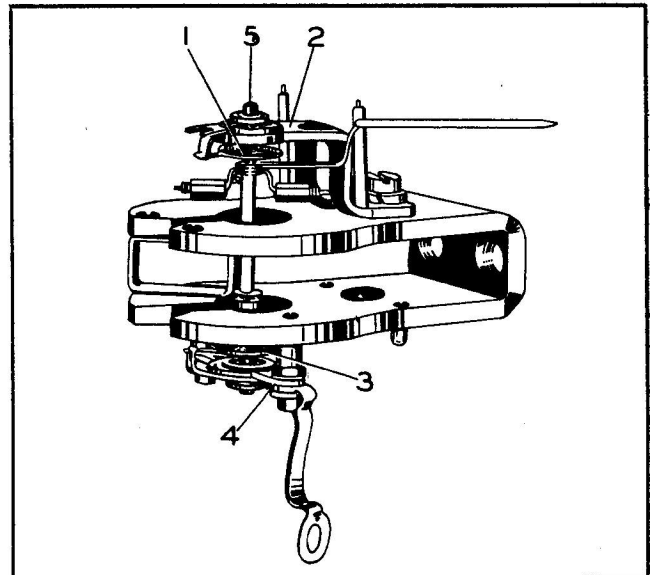

Figure 2-8. Movement Removal
**2-83. REMOVAL OF MOVEMENT ASSEMBLY FROM POLE PIECE.** (See figure 2-8).
- 2-84. Unsolder top spring (1) at top bridge (2).